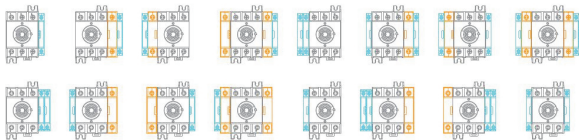

Figure 30 Schematic diagram of accessory pole/auxiliary contact matching
7.2.5 Additional auxiliary contact/additional fourth pole installation: as shown in Figure 30, 31